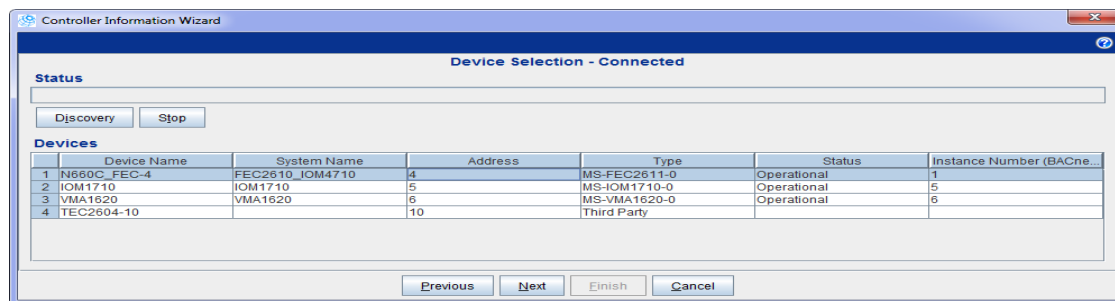

Figure 11: Controller Information Wizard
3. Once the wizard completes auto-discover, a complete list of all devices appears (Figure 11). The list includes controller information, such as device name, description, type, and status. Hold CTRL and click all rows to select all the devices listed. Click **Copy to Clipboard**.